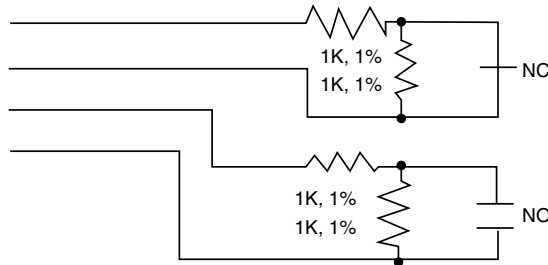

Figure 38: Wiring of Termination Resistors for Supervised Input Connections
- b. (Optional, for supervised input connections only). Install two End-Of-Line (EOL) 1K termination resistors in each supervised input interface (one terminator in each connector). Figure 38 shows the terminator installation for a Normally Closed (N.C.) and Normally Open (N.O.) input connection.